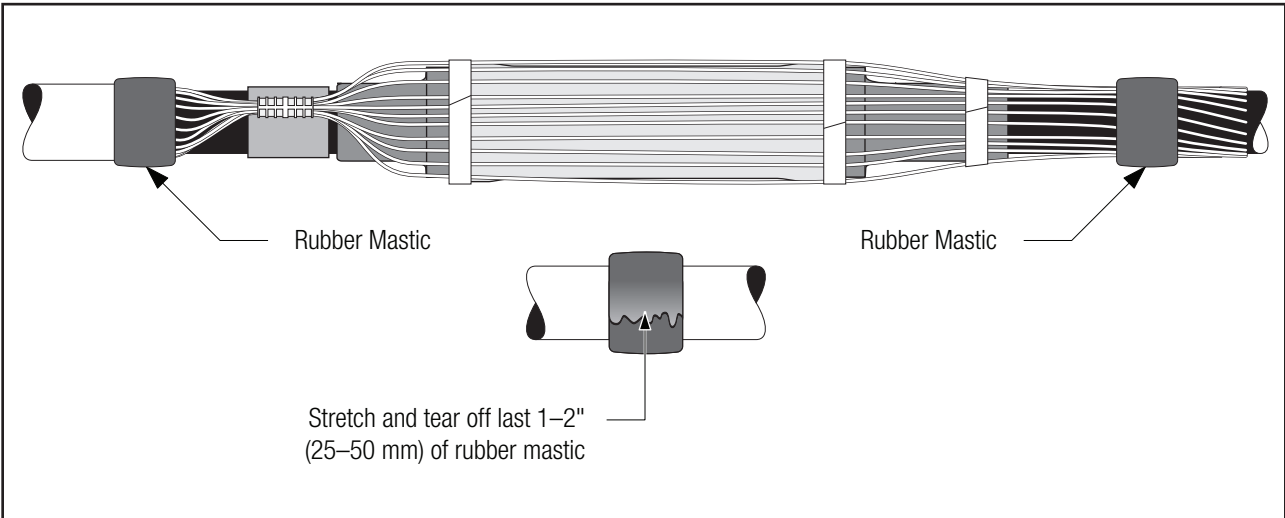

Figure 45
- 12.1 Apply one roll of slightly stretched rubber mastic tape around JCN cable jacket end (tacky side toward cable). If ground wire is connected, apply rubber tape over mastic sealing strips. Apply one roll of rubber mastic tape over CN cable mastic seal (tacky side toward cable). Stretch and tear off the end of the rubber mastic as shown (*Figure 45*).